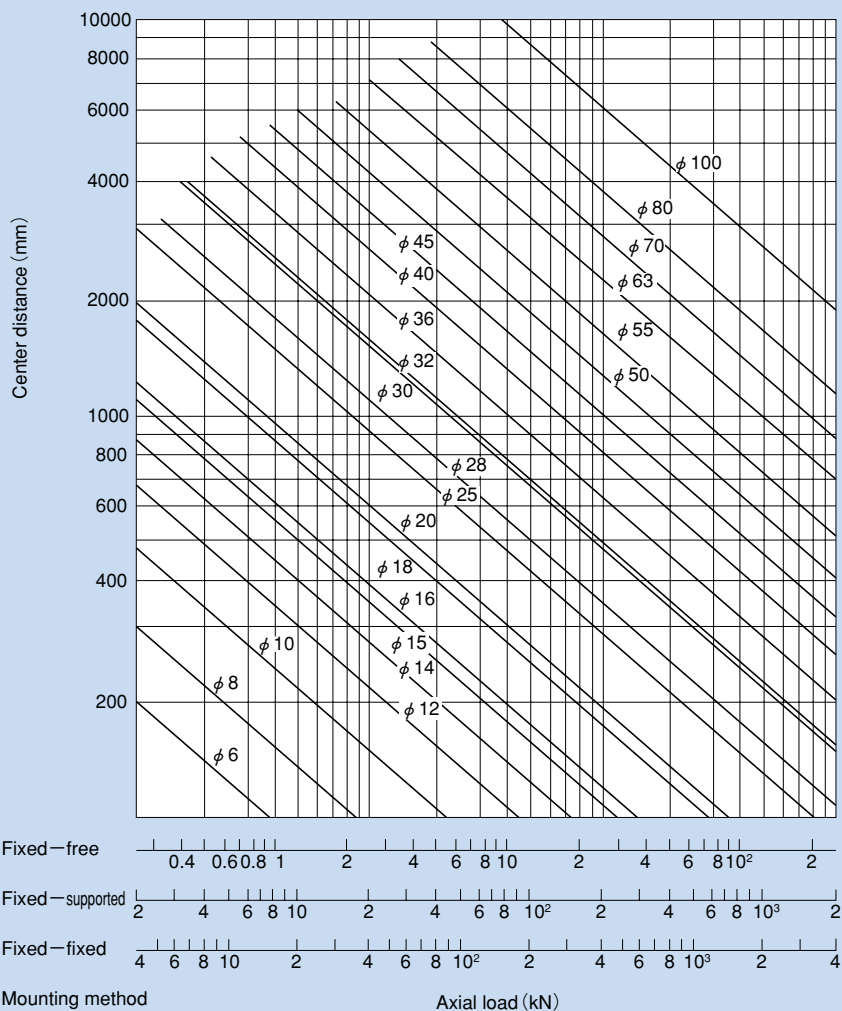

Fig. 5 Permissible Tensile and Compressive Load Diagram
Fig. 5 on page K-44 shows the relationship between the screw shaft diameter and a buckling load. If determining a buckling load by calculation, it can be obtained from the equation (6) below. Note that in this equation, a safety factor of 0.5 is multiplied to the result.